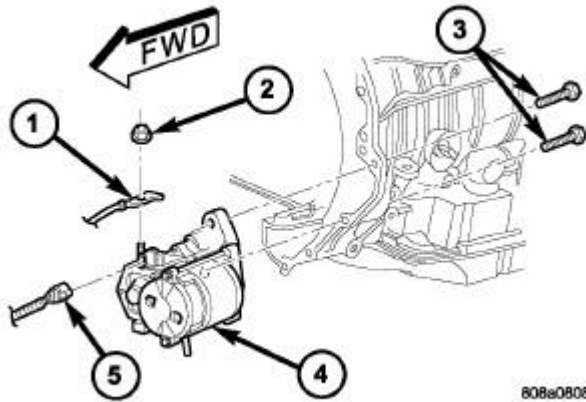

Fig. 15: Remove/Install Starter Motor
8. Install the starter (4). Refer to **Fig. 15**.